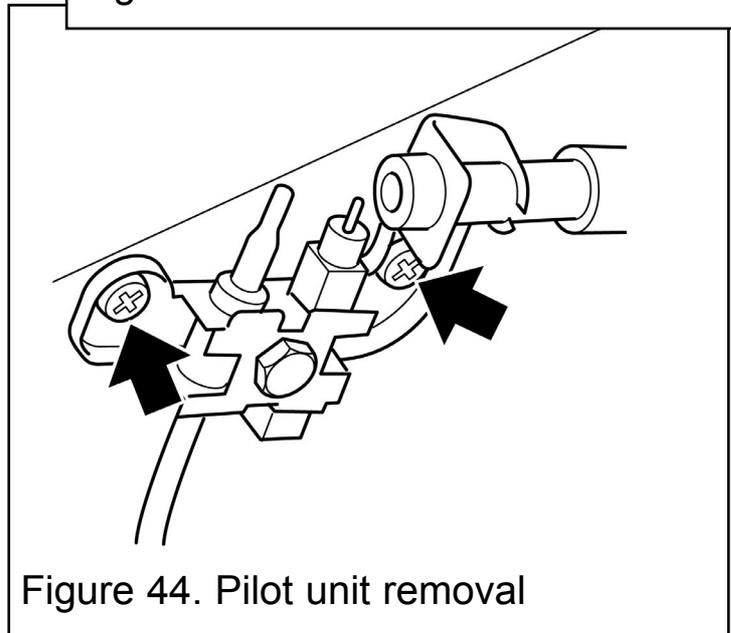

Figure 44. Pilot unit removal
6. Remove the two screws securing the pilot unit . See figure 44.